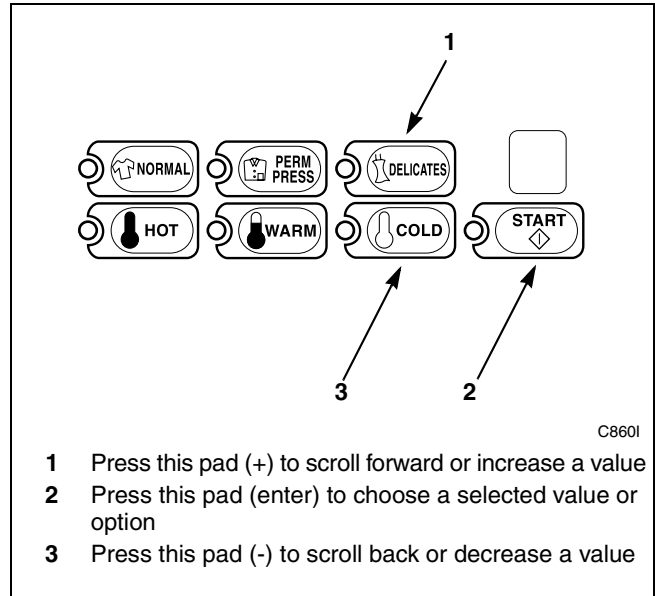

Figure 137
5. Press the DELICATES (+) or the COLD (-) keypad to increase or decrease the current number of minutes displayed in the VFD to the desired number of minutes. Refer to *Figure 137*.